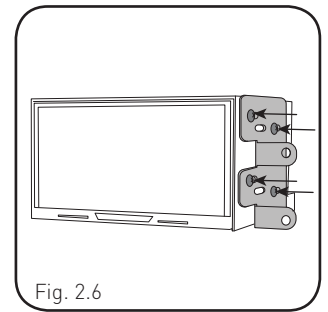

Fig. 2.6
5. Place the FLX1 radio brackets onto the aftermarket radio. Secure with hardware provided with the radio. (Fig. 2.6)